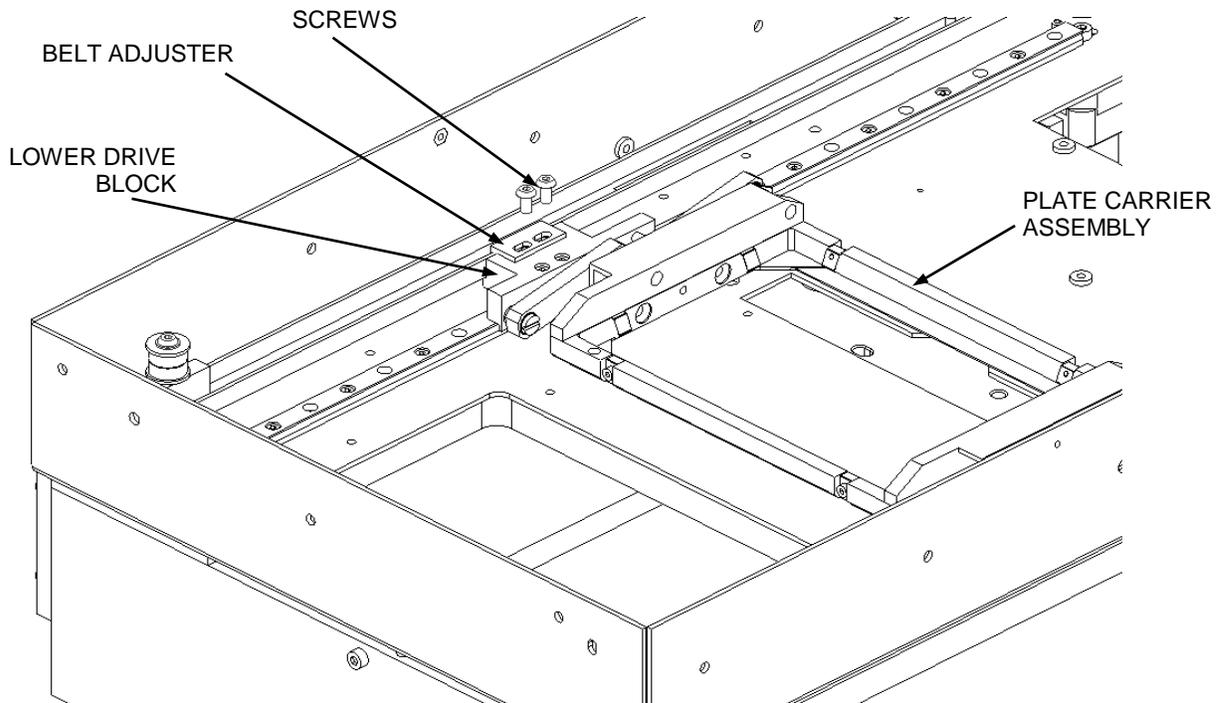

Figure 12-64: Affixing the Belt Adjuster
10. Move the Plate Carrier assembly into the middle of the Chassis and fit the Belt Adjuster to the Lower Drive Block LH (Figure 12-64). The teeth in the Belt Adjuster will engage with the belt and position the Adjuster where it needs to sit. Secure using two M3X6 Skt Btn Screws and Loctite 222.